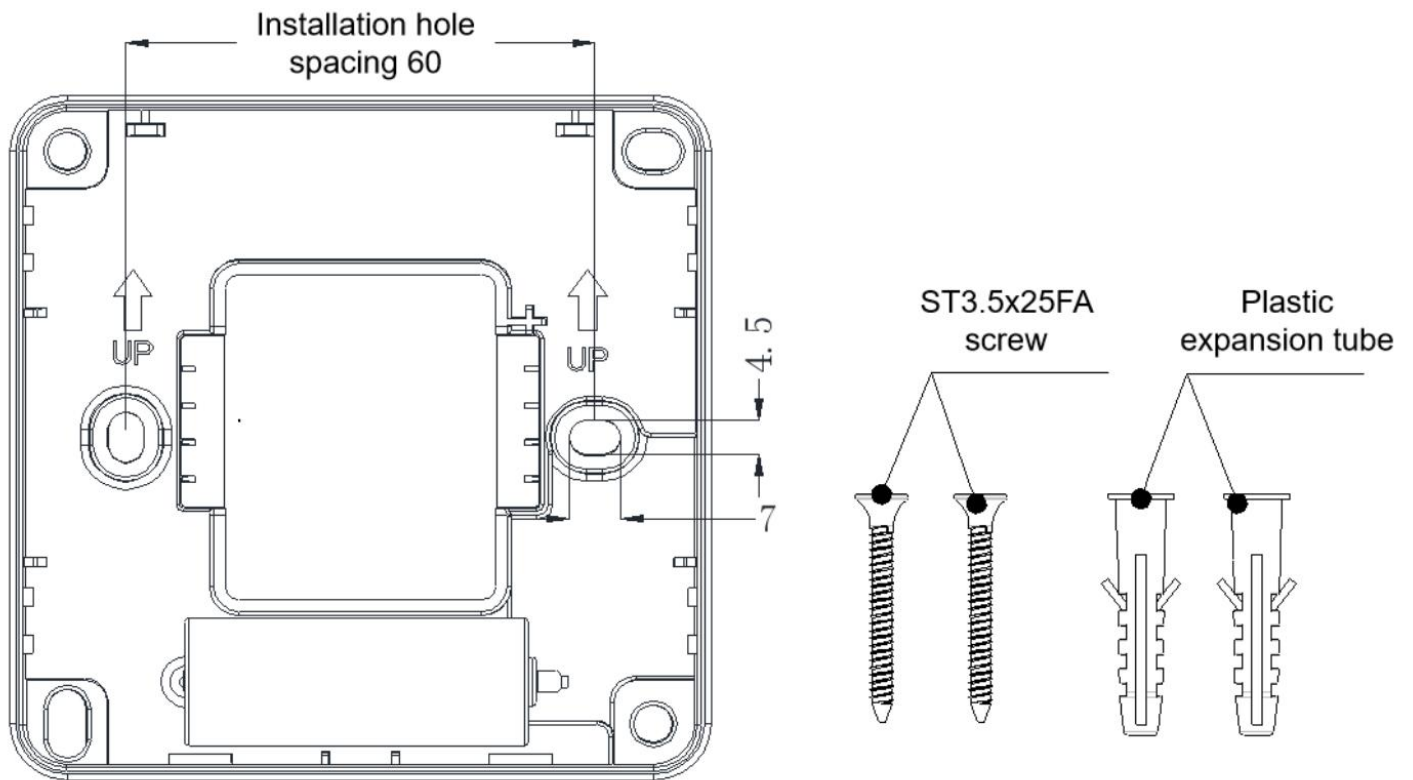

Figure 2 Wireless input/output module base and mounting accessories
2. Schematic of wireless I / O module base dimensions as shown in Figure 2 (unit: mm)